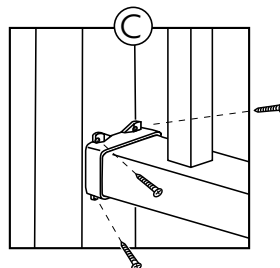

Figure 6
- 8.) Repeat steps 6 & 7 for the remaining three screws for the first bottom bracket (Figure 6).